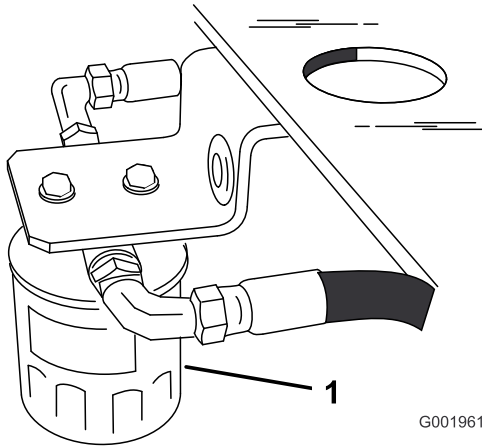

Figure 47
- Locate the filter under the fuel tank and place drain pan under filter (Figure 47).
- Remove the old filter and wipe the filter adapter gasket surface clean (Figure 47).